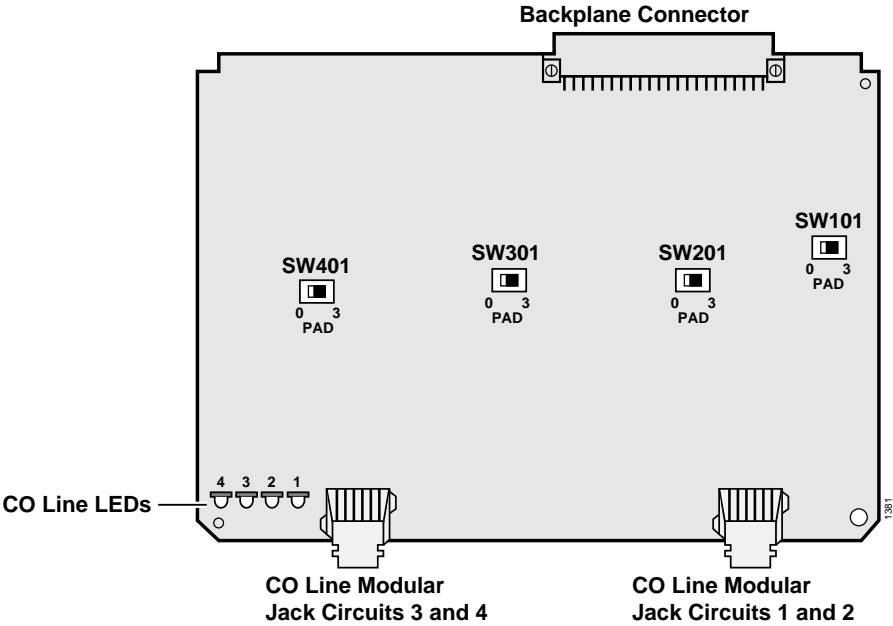

Figure 7-16 DK40i and DK424-RCOS Controls, Indicators, and Connector
2. Mate the RCOS female connectors J11, J12, J13, and J14 (Figure 7-16) to the RCOU male connectors P11, P12, P13, and P14 (Figure 7-14).